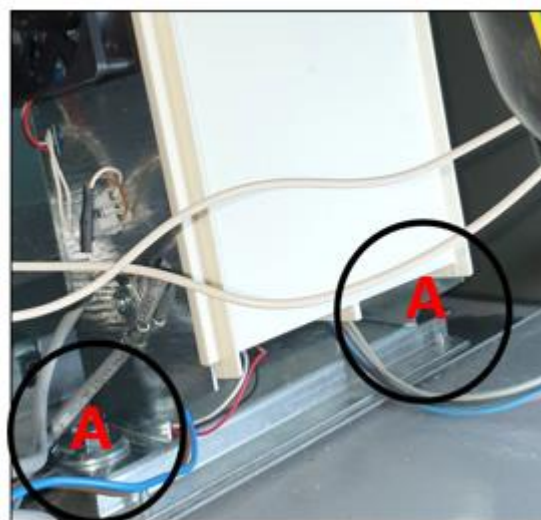

Fig.2.10
18. Tighten screws **A** (Fig. 2.10) to secure the inverter enclosure to the machine.